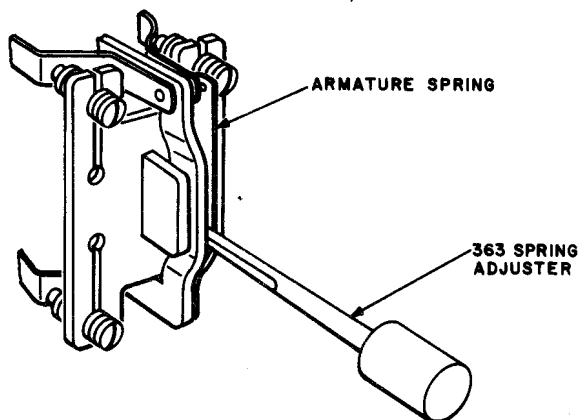
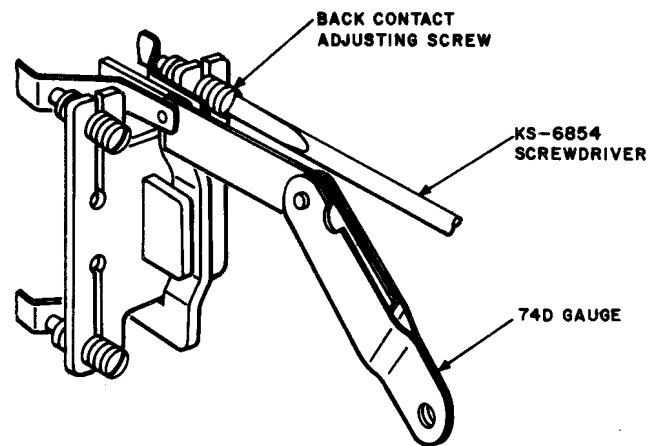

Fig. 22—Method of Adjusting Armature Spring for Minimum Front Contact Make
Fig. 23—Method of Adjusting Contact Separation
(13) To position the armature spring for front contact make, adjust it with the 363 spring adjuster until it makes contact with the proper gauge inserted between the armature and the core of the relay. Apply the spring adjuster slightly above the bend in the spring as shown in Fig. 22.
(14) Position the back contact spring or stop so the contact separation is at or near the minimum value specified. Do this by turning the back contact adjusting screw with the KS-6854 screwdriver and then inserting the proper gauge to check the front contact separation as shown in Fig. 23. Do not turn the adjusting screw with the gauge inserted between the contacts. To position the armature spring for contact separation adjust it with the 363 spring adjuster as shown in Fig. 22. After making this adjustment check that the front contact make requirement is still met.